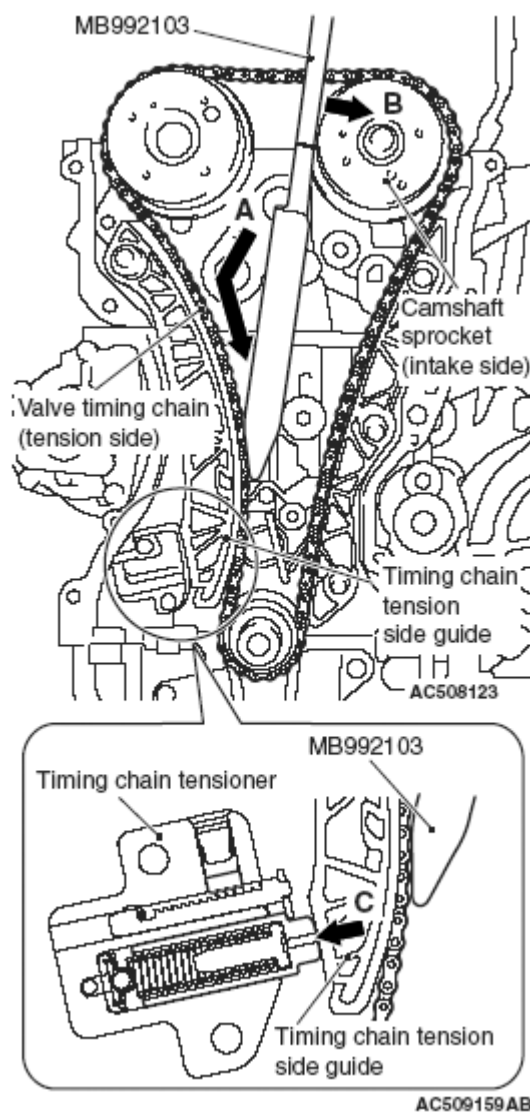

Fig. 31: Holding Timing Chain Tension Side Guide
2. With the timing chain tensioner unlocked, insert special tool MB992103 inside the timing chain case assembly along the tension side of the timing chain until the insertion guide line aligns with the upper surface of the timing chain case assembly (A in Fig. 31.)
NOTE: With the timing chain tensioner unlocked, insert the special tool MB992103 along the tension side of the timing chain, according to the special tool MB992103 top shape. The special tool MB992103 can be inserted smoothly to the position where the special tool MB992103 insertion guide line aligns with the timing chain case assembly top surface (B in Fig. 31), and the spread timing chain tension side guide can be held (C in Fig. 31.)